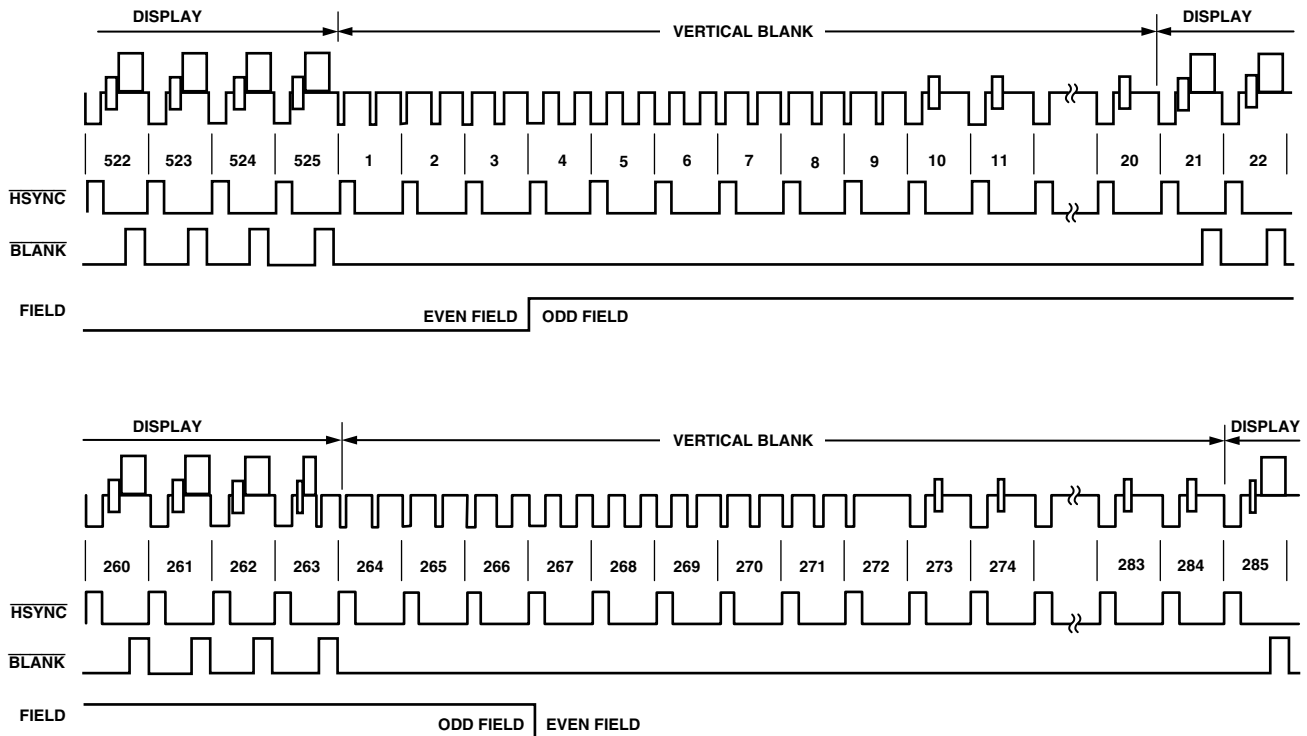
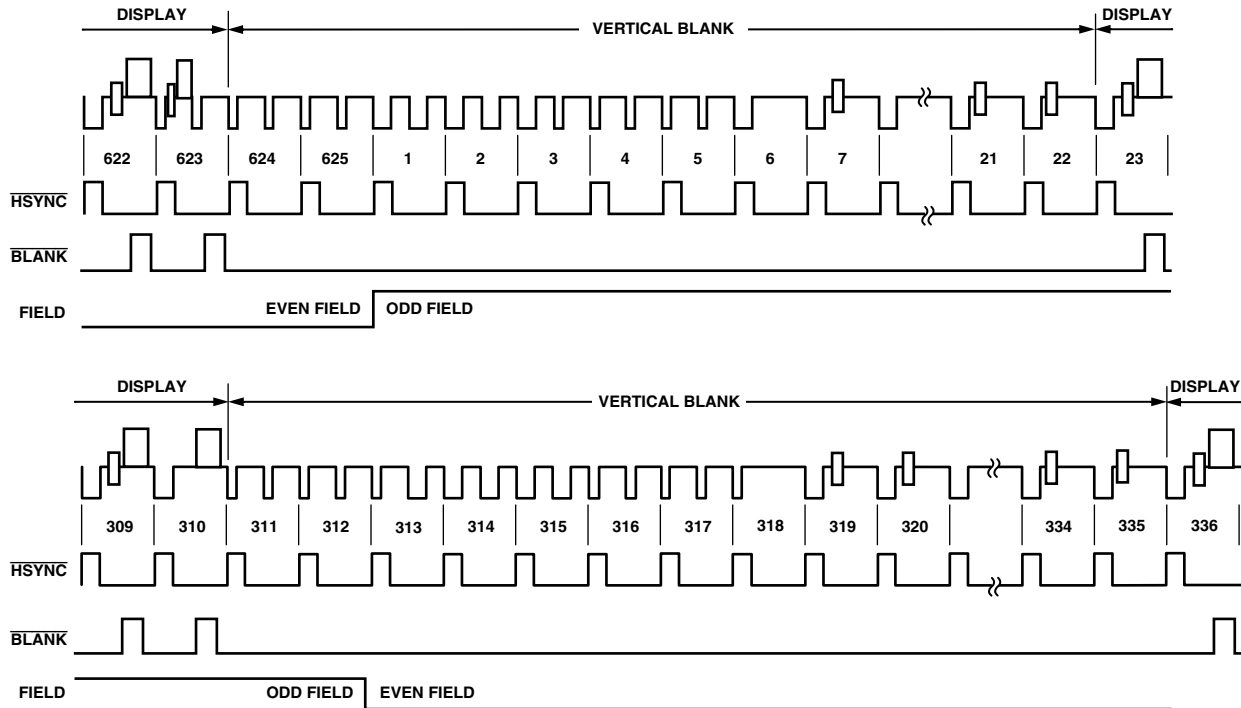

Figure 18. Timing Mode 3 (NTSC)
Figure 19. Timing Mode 3 (PAL)
i.e., vertical retrace. The  $\overline{\text{BLANK}}$  signal is optional. When the  $\overline{\text{BLANK}}$  input is disabled, the ADV7174/ADV7179 automatically blanks all normally blank lines as per CCIR-624. Mode 3 is illustrated in Figure 18 (NTSC) and Figure 19 (PAL).